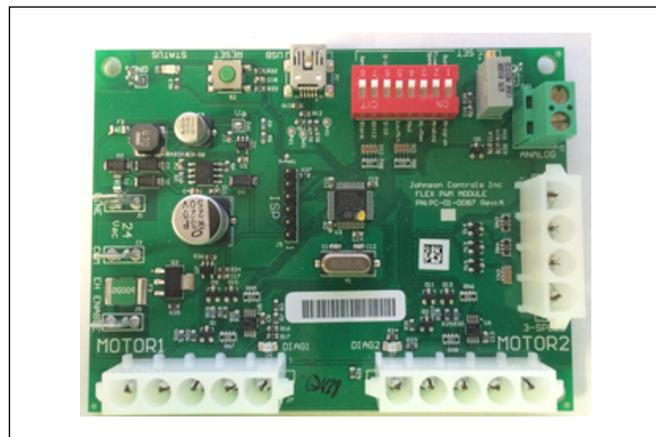

Figure 48 – G3 PWM Board
- a. Locate the G3 PWM board within the control enclosure (See Figure 48).